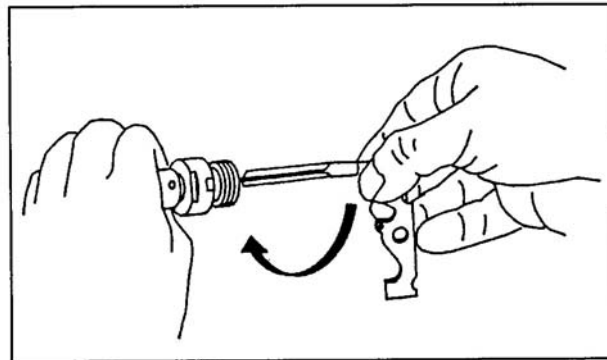

Figure 16. Cleaning of the central hole.
- (2) Clean the central hole of the gas regulator with the appropriate part of the scraper by turning the scraper clockwise and pushing it inward toward the bottom of the housing (Figure 16).